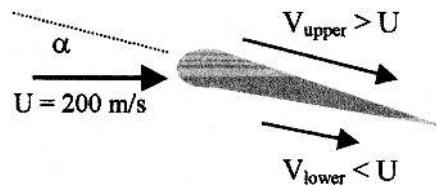

Fig. P3.150
**3.150** An airfoil at an angle of attack  $\alpha$ , as in Fig. P3.150, provides lift by a Bernoulli effect, because the lower surface slows the flow (high pressure) and the upper surface speeds up the flow (low pressure). If the foil is 1.5 m long and 18 m wide into the paper, and the ambient air is 5000 m standard atmosphere, estimate the total lift if the average velocities on upper and lower surfaces are 215 m/s and 185 m/s, respectively. Neglect gravity.